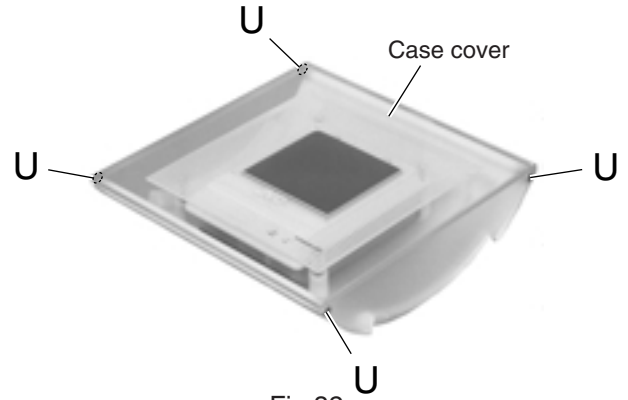

Fig.32
■ Removing the LCD board assembly (See Fig.32 to 36)